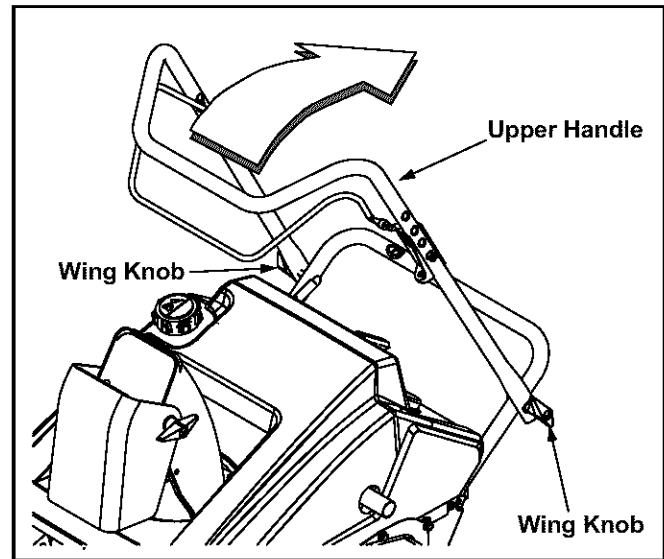

Figure 2
- Making sure not to pinch or crimp the cable in the process, pivot the upper handle into the operating position as illustrated in Figure 2 until it clicks into place.